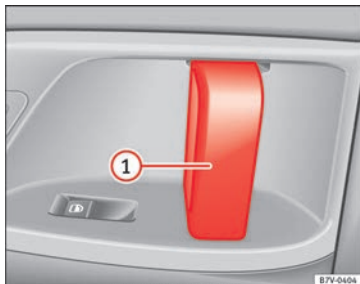

Fig. 133 On the sliding door, door handle ①.
Opening the sliding door from the inside.	When the sliding door is released, open the door fully by pulling on its interior handle » Fig. 133 ①.